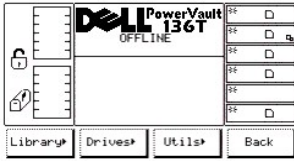

Figure 63. Main Menu > More > Setup Menu
- 1 The Setup Menu appears. This menu offers four selections. See Figure 63.